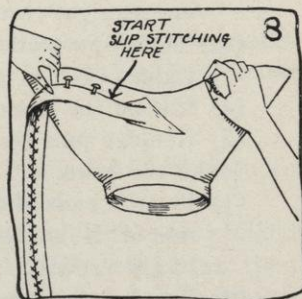

FIG. 8.
- c. Make fold, starting about 3 inches from one end of the bias strip. Be sure to read and follow Sections 3 d (1) and (2), but do not join the fold in a circle. Leave 3 inches of your bias so that you can make the joining more easily.
- (1) If there are two seams, plan to place them equal distances from the back; or if there is only one, place it at the direct back or where it can be hidden.
- (2) Stretch the outer edge of the fold and pin it about every 3 inches to the brim as you stretch (see Figure 8).
- (3) Slipstitch the fold to the brim just under the outer edge, starting about 1 inch from where you actually started to make the fold (see Figures 8, 11 A and 11 B of Job 16, page 69).
- (4) Continue to slipstitch until you come within 6 inches of the starting point.